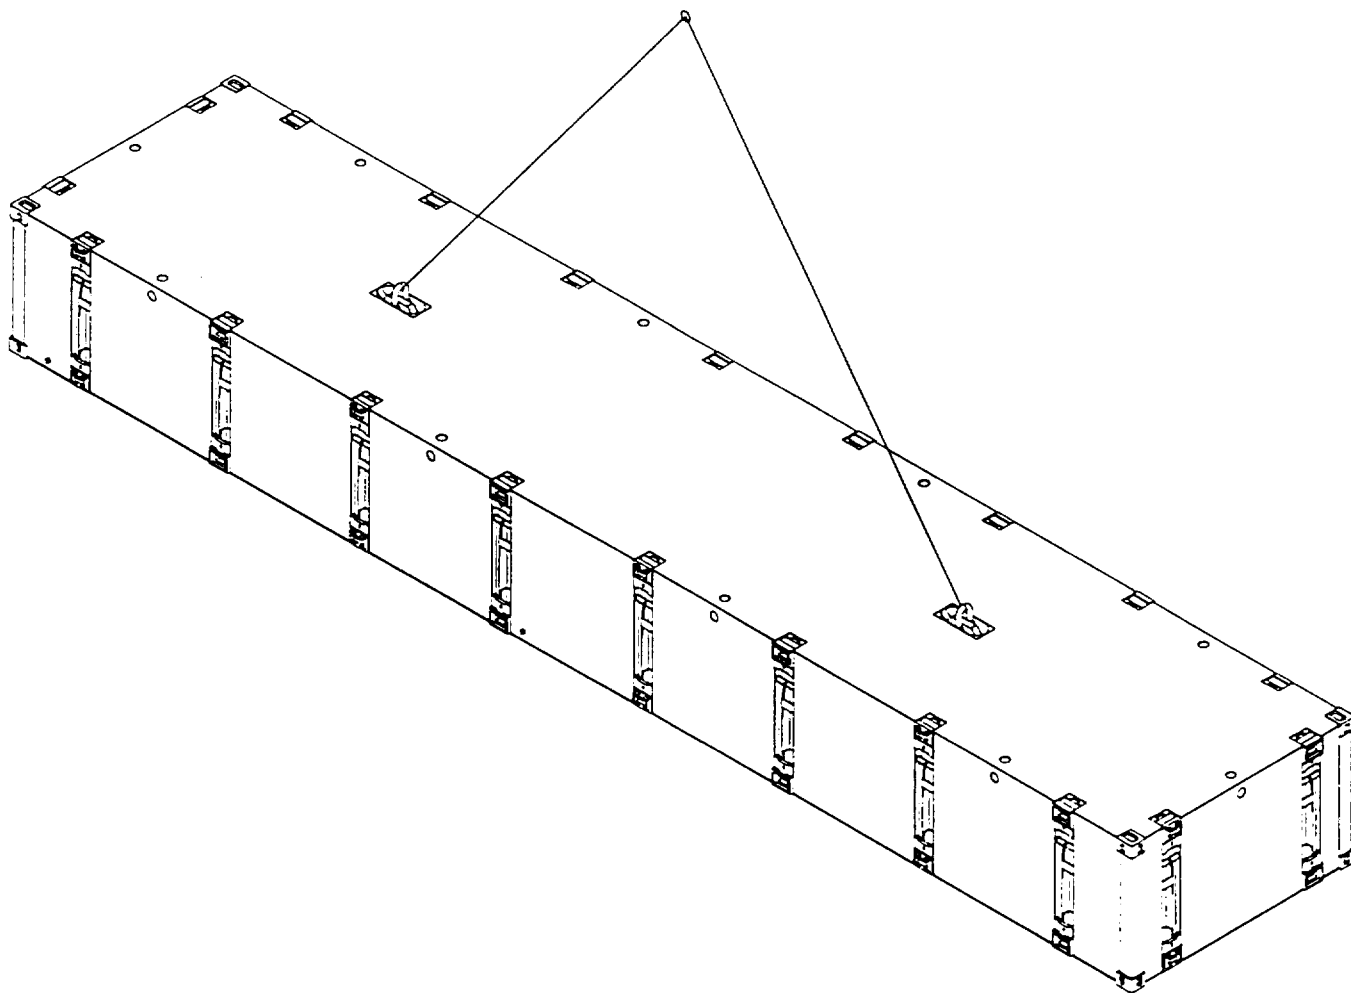

Figure 3-8. Lifting MCF Intermediate Module.
- a. A string sling is utilized when lifting the Center Module (Figure 3-8). The string slings consists of a 1 3/8 inch diameter 6 X 37 IWRC two leg, wire rope bridle with a 2-1/4 inch x 8 x 16 inch master link at the lift end. Bridle legs are 14 feet pull to pull, with thimbles at each end. One 22 ton eye hook is at the load end of each leg.